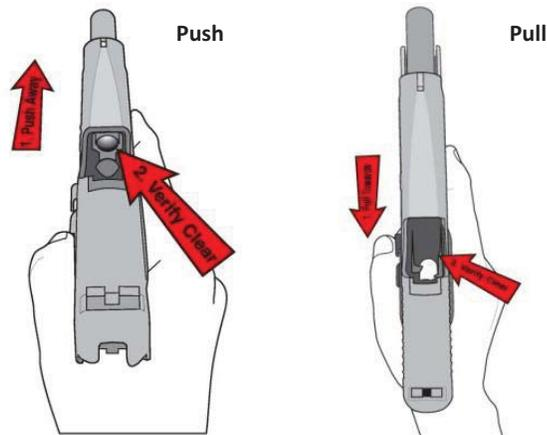

Figure 3-1 Push-Pull
A.6.d. Push/Pull Method. Always use push/pull (the exact procedure varies slightly by firearm model) to verify a clear firearm. See Figure 3-1.
A.6.d (1) Point firearm downrange, level to the deck, and **push** away from the body. Inspect the chamber to ensure it is clear and contains no brass or ammunition (you should see light in the chamber area).
A.6.d (2) Keep firearm pointed downrange, level to the deck, and **pull** towards the body. Look into the magazine well to verify magazine is removed and firearm is clear.